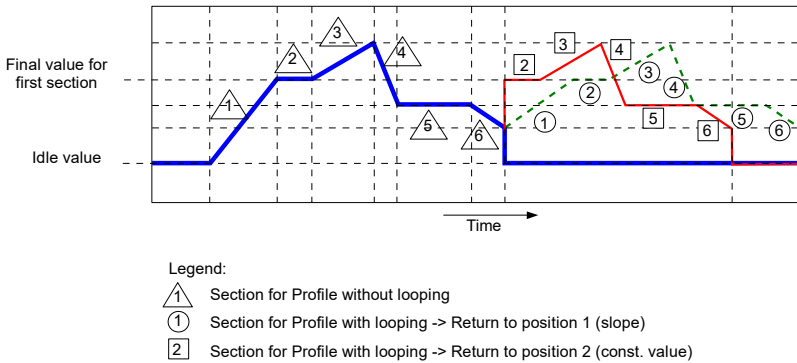

Fig. 7.108. Sample of Profile/timer with description of parameters
- if the section from which begins the next repeat Profile/timer is a **ramp**, then in the whole duration of this section is linear generating the output signal from the **final value** of the previous section to **final value** of this section. This is shown in **Fig. 7.108** (dashed line-run profile)
- if the section from which the next repeat of the Profile/timer begins is a constant value, then Profile signal quickly transient (0.1 seconds) from the **final value** of the previous section to a **constant value** in this section. This is shown in **Fig. 7.108** (profile guided fine line).